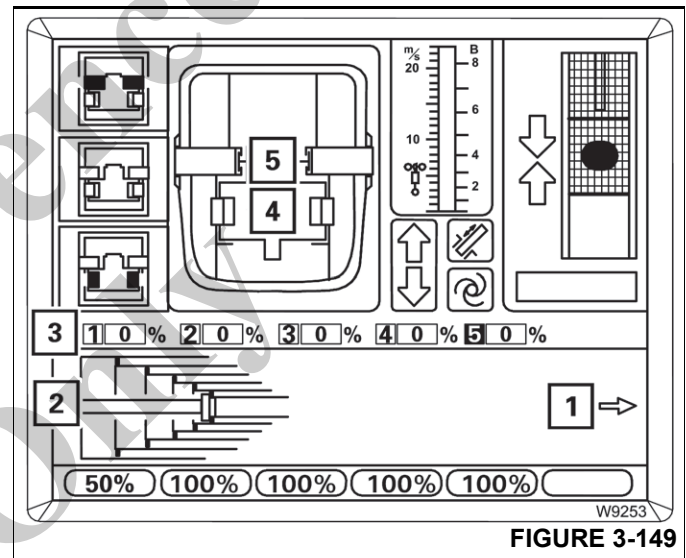

FIGURE 3-149
1. Move the control lever for retracting and hold it there, refer to (Figure 3-149).